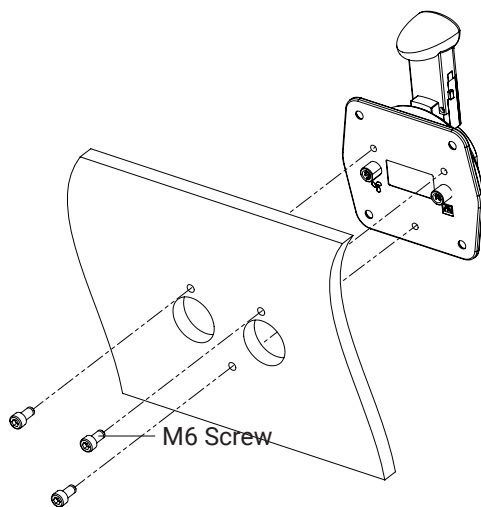

Figure 2-2
② Fix the throttle to the side of the boat referring to the figure 2-2.